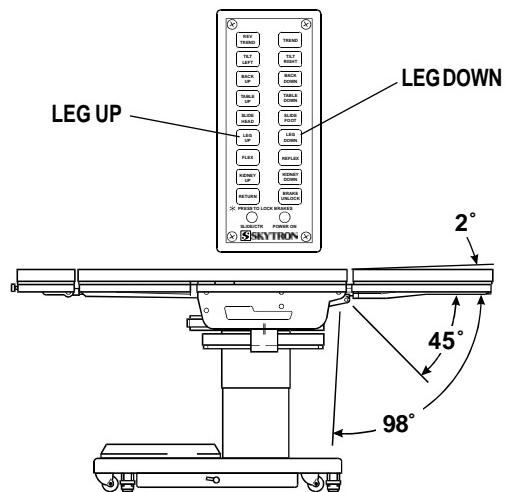

Figure 2-9. Leg Section Positioning
**g. Leg Section.** To lower the leg section, press the LEG-DOWN button (figure 2-9). The leg section will go down to 98° below horizontal. To raise the leg section, press the LEG-UP button. The leg section will go up to 2° above horizontal.